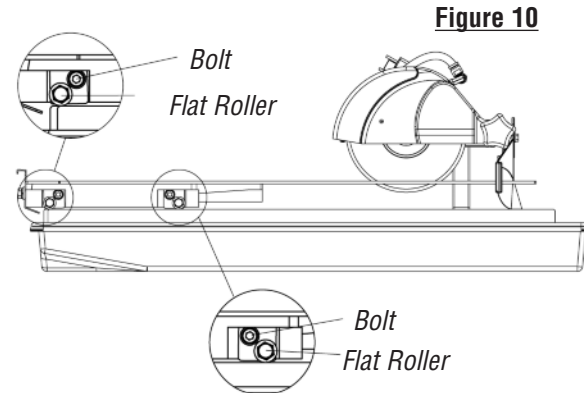

Figure 10
- Loosen the bolt on the flat roller plate so that the roller can swing freely about the bolt. (see figure 10) Do this for both flat roller plates.